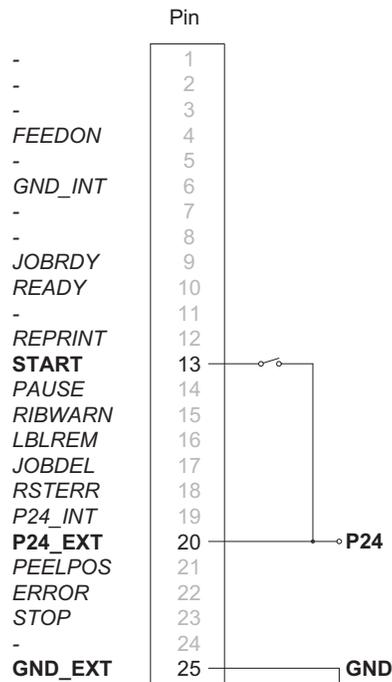
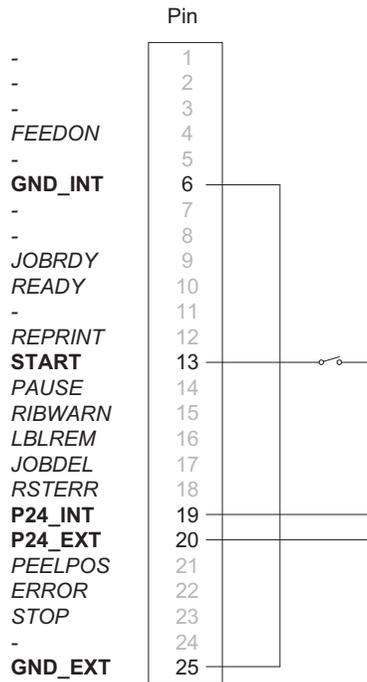

Figure 57: Operation with external voltage supply
Figure 58: Operation using the internal voltage
- External circuit as shown in Figure 57 / Figure 58